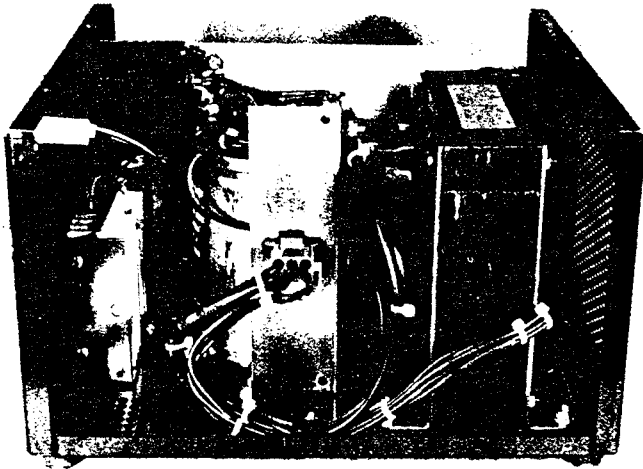

FIGURE 10 — OPEN EPSA
02.17 The harness is secured to the chassis with a cable clamp (Figure 10). Loosen the screw and nut slightly to allow movement of the harness.
02.24 Align the two tan-colored PBBU pins with the two holes in the heat sink (Figure 10). Press the pins into the holes until they catch.